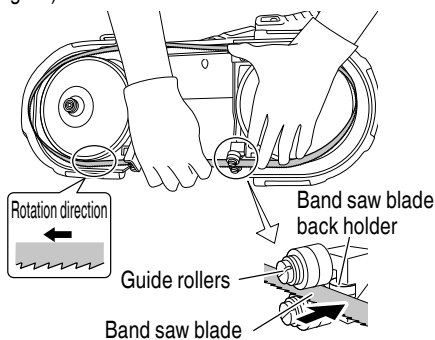

Fig. 17
- (2) Being careful of the direction of revolution and the facing of the band saw blade (see figure), place the band saw blade in Guide roller, installing the band saw blade until it comes into contact with the Band saw blade back ball bearing support.
- (3) Holding the band saw blade in place so it doesn't come loose, seat the band saw blade in Blade pulley. (Fig. 17)